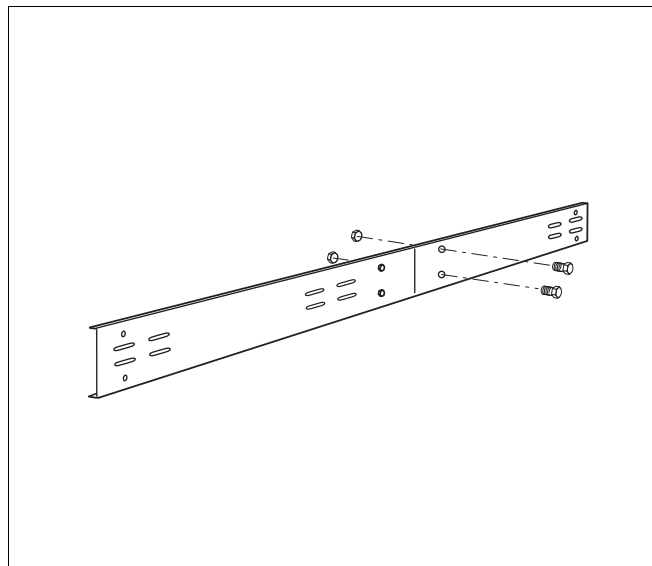

Fig. 17 Side connection plate
- The side connection plates consist of two parts, and must be preassembled. Join the two parts of the connection plate together using 2 bolts and 2 nuts (Fig. 17).